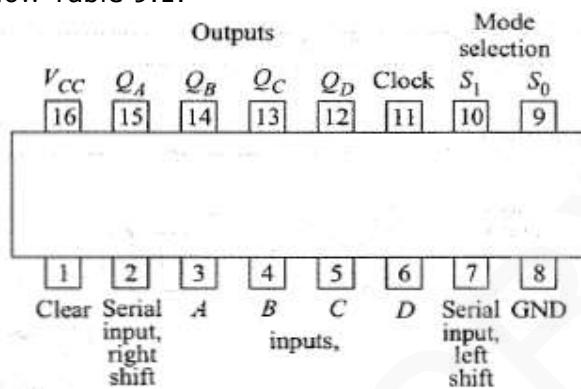

Figure 9.18: 74194 pinout
- is also bidirectional in nature (Figure 9.18).